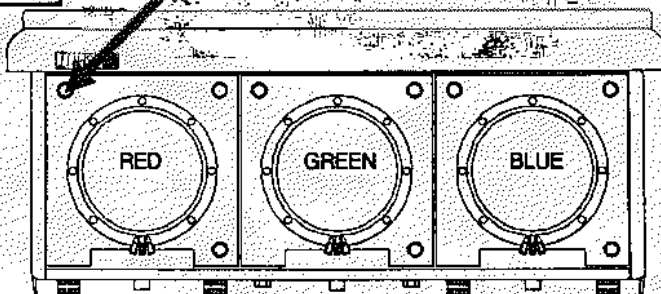

FIGURE 8-8. STEP 11.
- **STEP 11. RED ONLY!** Adjust the upper left lens adjustment for side-to-side focus. See figure 8-8.